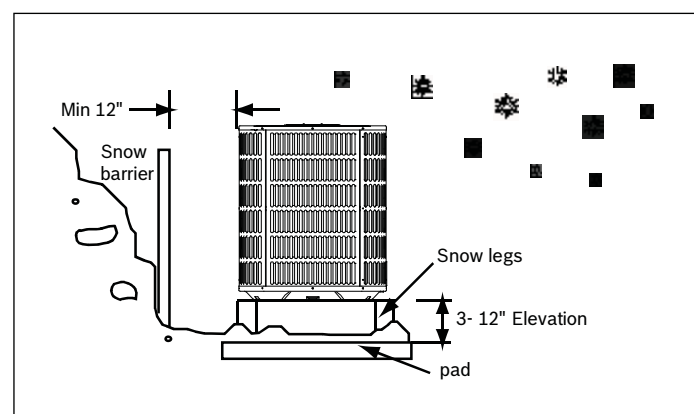

Figure 5
- Units should be elevated 3-12 inches above the pad or rooftop, depending on local weather. This additional height will allow drainage of snow and ice melted during defrost cycle prior to its refreezing. Ensure that drain holes in unit base pan are not obstructed, preventing drainage of defrost water (Fig. 5).